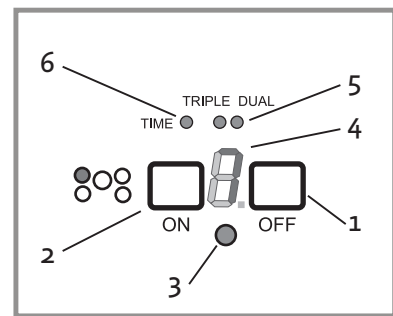
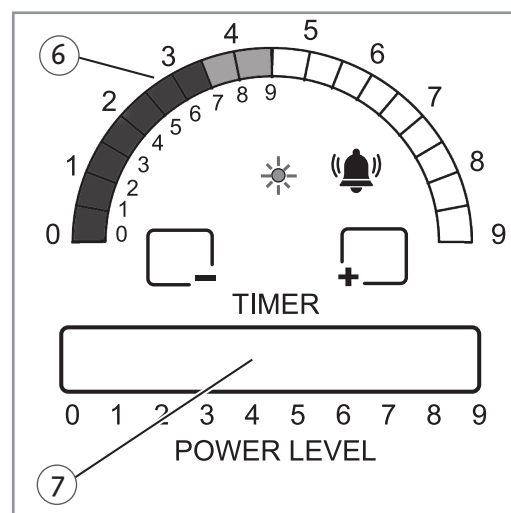

Figure 7.
Figure 8.
The display (Figure 7 ref. 4) and the "Peacock Tail" (Figure 8 ref. 6) shows the power level, updated in real time.
After a 5 seconds time-out the value is accepted and the HOT SURFACE indicator (Figure 7 ref. 3) stops flashing.
To use the inner and middle elements, touch the TRIPLE key while the HOT SURFACE indicator is flashing. The the DUAL indicator (Figure 8 ref 5) will illuminate when the inner and middle elements are selected.